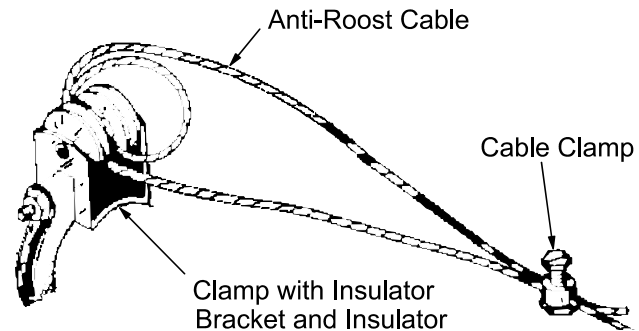

Figure 46. Anti-Roost Cable at the Hopper
2. Start at the hopper end of the line and form a loop around the anti-roost bracket. For best results, make a double loop around the anti-roost insulator in the center groove of the insulator and fasten with a 3/32" cable clamp as shown in Figure 46.